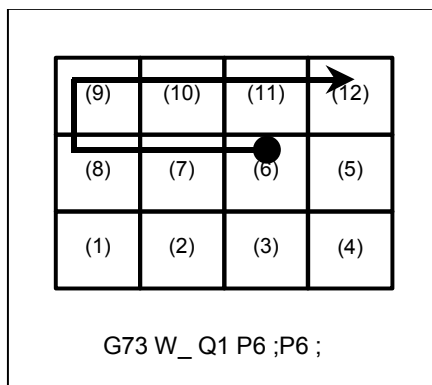

Fig.15.5.4 (a) Command for Restarting Machining Multiple Products
Please specify a restart point by a P-code. Fig.15.5.4 (a) shows an example that restarting operation at point (6). In this case, specify P6.